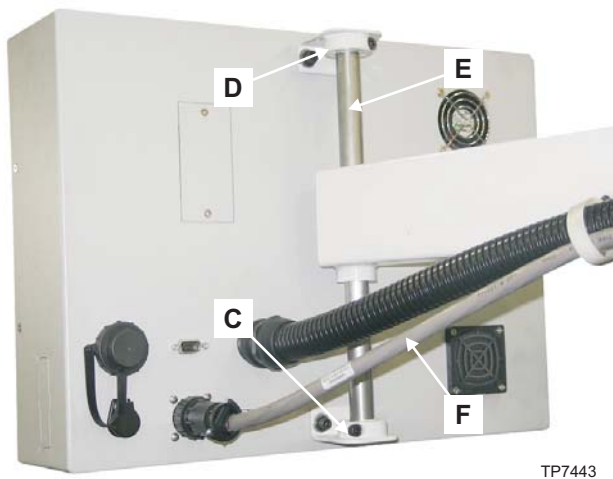

Figure 2.7 - Pendant Mounted on Arm
2. Remove lower mounting bracket "C", Figure 2.7, from the back of the control pendant.
4. Install the lower mounting bracket, as shown in Figure 2.7.